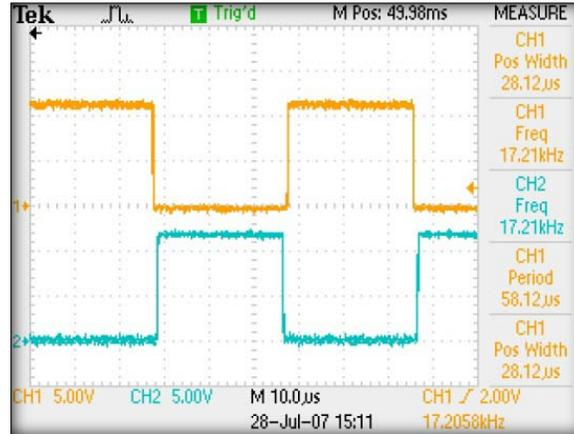

Figure 117: Filament Drive Signal
- b. Turn the hand switch to the **ON** position. Verify that the duty cycle is between 42% and 48%. See Figure 117. (*Note: This parameter is NOT adjustable.*)